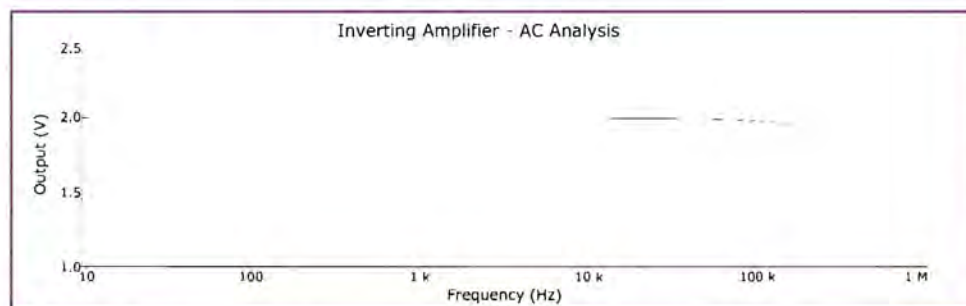

Figure 9: AC analysis of the inverting amplifier with feedback
Testing of the inverting amplifier with feedback is performed on the example of the circuit Figure 2. After entering it to the simulation program, an input signal of 0.4V should be chosen to give the desired 2V output; the set closed-loop gain $A = -5$ is typical for most audio applications. The obtained amplitude-frequency response is shown in **Figure 9**. Note that the circuit's closed-loop bandwidth extends up to 700kHz (at the level of -3dB) and the amplifier remains absolutely high-frequency (HF) stable not only in this case, but always, and with any amount of the applied negative feedback; the correction capacitor $C2 = 10\text{pF}$ guarantees that.